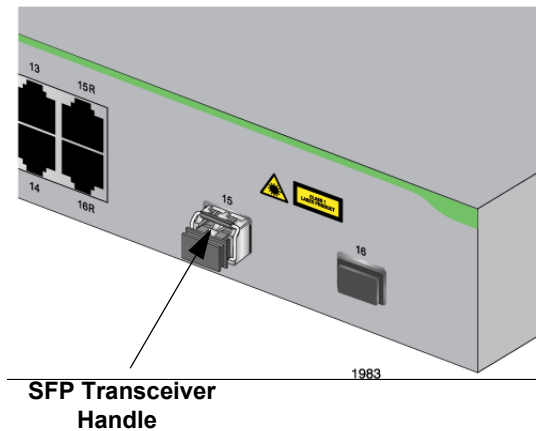

Figure 14. Positioning the SFP Handle in the Upright Position
- Verify that the handle on the transceiver is in the upright position, as shown in Figure 14. This secures the transceiver and prevents it from being dislodged from the slot.